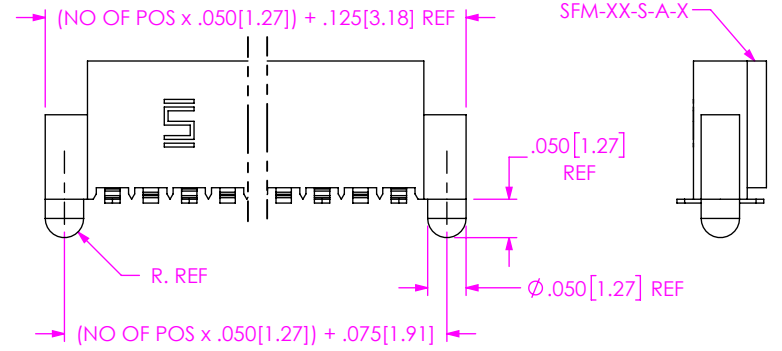

FIG 3
-A: ALIGNMENT PIN (USE SFM-XX-S-A-X) (SEE FIG. 3)